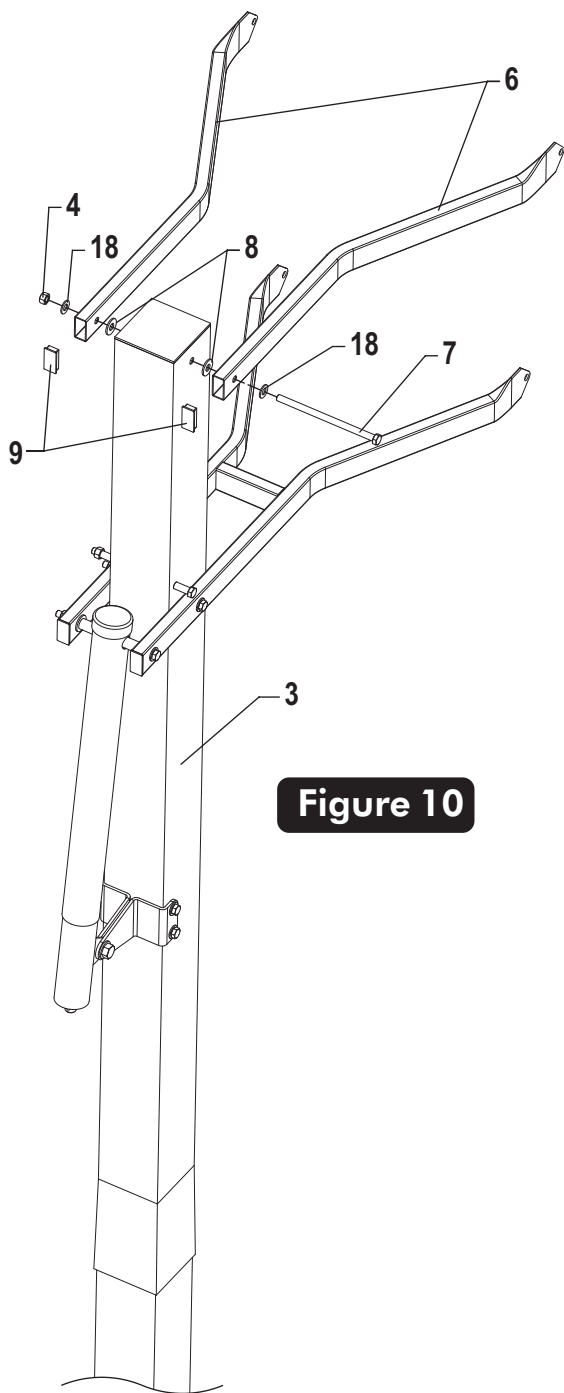

Figure 10
19. Attach of Upper Arms (#6) to Top Pole (#3), as shown in **Figure 10**, using a bolt (#7), two flat washers (#18), two spacers (#8) and one lock nut (#4).